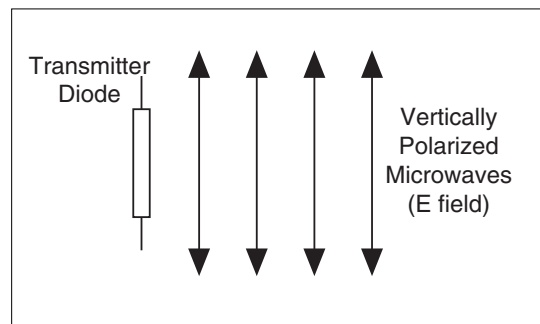
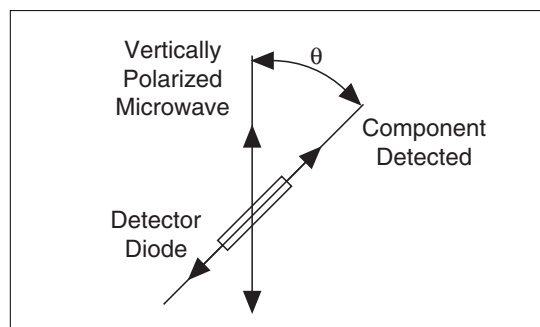

Figure 5.1 Vertical Polarization
Figure 5.2 Detecting Polarized Radiation
The microwave radiation from the Transmitter is **linearly polarized** along the Transmitter diode axis (i.e., as the radiation propagates through space, its electric field remains aligned with the axis of the diode). If the Transmitter diode were aligned vertically, the electric field of the transmitted wave would be vertically polarized, as shown in Figure 5.1. If the detector diode were at an angle θ to the Transmitter diode, as shown in Figure 5.2, it would only detect the component of the incident electric field that was aligned along its axis. In this experiment you will investigate the phenomenon of polarization and discover how a polarizer can be used to alter the polarization of microwave radiation.
- ① If the Receiver meter reading (**M**) were directly proportional to the electric field component (**E**) along its axis, the meter would read the relationship $M = M_0 \cos \theta$ (where θ is the angle between the detector and Transmitter diodes and M_0 is the meter reading when $\theta = 0$). (See Figure 5.2). Graph your data from step 2 of the experiment. On the same graph, plot the relationship $M_0 \cos \theta$. Compare the two graphs.
- ② The intensity of a linearly polarized electromagnetic wave is directly proportional to the square of the electric field (e.g., $I = kE^2$). If the Receiver's meter reading was directly proportional to the incident microwave's intensity, the meter would read the relationship $M = M_0 \cos^2 \theta$. Plot this relationship on your graph from question 1. Based on your graphs, discuss the relationship between the meter reading of the Receiver and the polarization and magnitude of the incident microwave.
- ③ Based on your data from step 5, how does the Polarizer affect the incident microwave?
- ④ Can you explain the results of step 6 of the experiment. How can the insertion of an additional polarizer increase the signal level at the detector? (**HINT:** Construct a diagram like that shown in Figure 5.2 showing (1) the wave from the Transmitter; (2) the wave after it passes through the Polarizer; and (3) the component detected at the detector diode.)